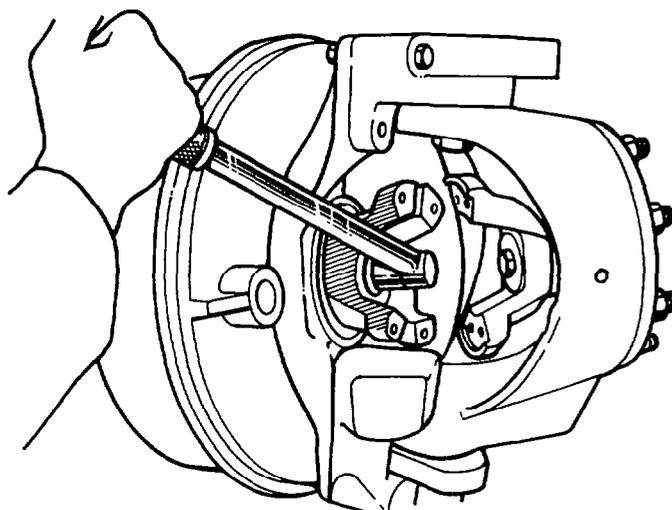

Fig. 376 — Tightening Centre Bolt
- w. Install the outer drive-shaft; align the holes in the flange with the hub-studs; position the drive-shaft yoke so that the splines are aligned, then push the shaft fully home in the yoke; install the washer and yoke centre bolt and torque to 169 Nm (125 lb.ft) (see fig. 376).